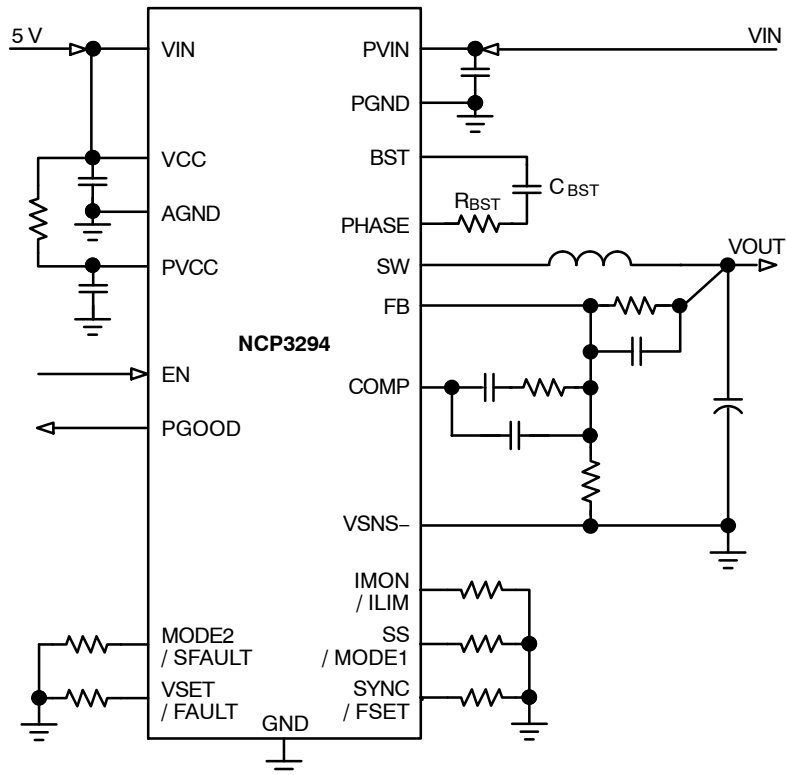

Figure 2. Typical 12 V_{IN}, 25 A Application Circuit with External 5 V VCC Supply (LDO Disabled)
5. Operation at <4.5V_{IN} requires external 5 V supply be applied to the VIN and VCC pins per Figure 2.